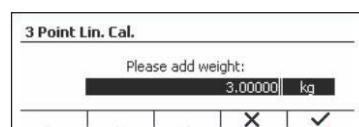

Figure 18
6. Put calibration mass on pan, and then press the softkey corresponding to the ✓ icon for confirmation. To change to a different calibration point, input desired value, then place the corresponding weight on pan for calibration. (See Figure 18)